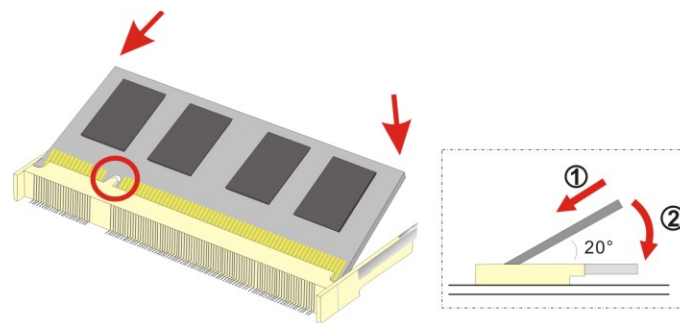

Figure 5-1: SO-DIMM Installation
To install a SO-DIMM into a SO-DIMM socket, please follow the steps below and refer to **Figure 5-1**.
Step 3: Insert the SO-DIMM. Push the SO-DIMM chip into the socket at an angle. (See **Figure 5-1**)
Step 4: Open the SO-DIMM socket arms. Gently pull the arms of the SO-DIMM socket out and push the rear of the SO-DIMM down. (See **Figure 5-1**)